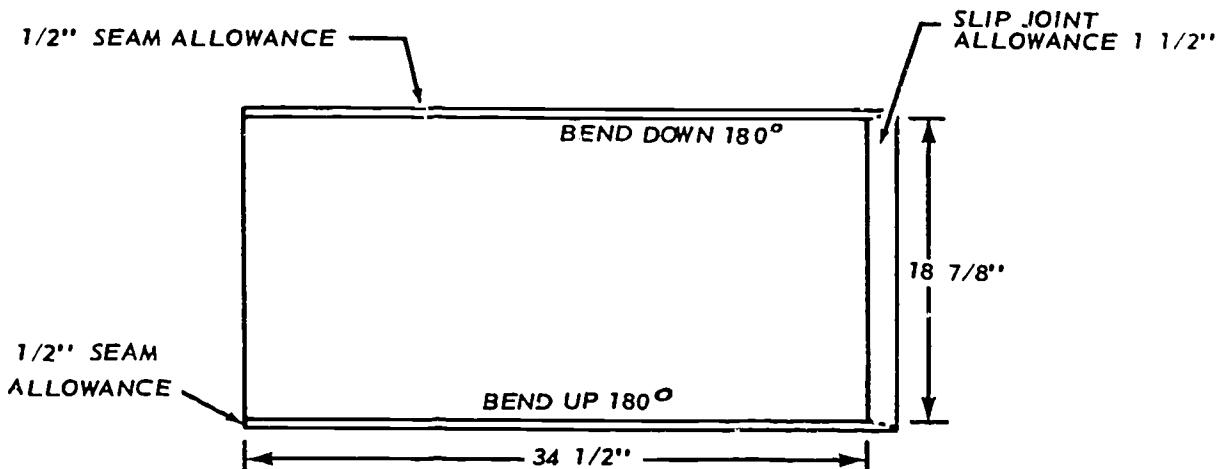

Figure 4-12. Pattern for 6-inch round duct joint.
*Round duct joint patterns.* All round duct joints in the branch lines are made in the same way except for the dimensions. In figures 4-6 and 4-9, most of the round duct has a 6-inch or 8-inch diameter, with the length made on a  $34\frac{1}{2}$  inch center. Since the sides of the pattern are parallel, the parallel-line method of layout is used. Without allowances, the pattern for a 6-inch round joint on a  $34\frac{1}{2}$ -inch center is a rectangle  $18\frac{1}{8}$ " x  $34\frac{1}{2}$ ", as shown in figure 4-12. The  $18\frac{1}{8}$ -inch side of the pattern is the circumference of the 6-inch joint, and each edge has  $\frac{1}{2}$ -inch allowance for the  $\frac{5}{16}$ -inch grooved seam. Notice that one edge is to be bent up and the other is to be bent down. The length of the pattern is  $34\frac{1}{2}$  inches plus  $1\frac{1}{2}$  inches for the crimped slip joint, making a total length of 36 inches. The patterns for the other round duct joints in the branch lines are like this one, except for their dimensions. The seam and connection allowances are the same for all round joints, except for the round joints that attach to the trunklines with dovetail seams.
The patterns for the round duct joints are easy to cut because they are rectangular and do not have notches. Figure 4-12 shows the pattern for the 6-inch round joint used extensively in the branch lines. Note that the size of the pattern, including allowances, is 19 1/8" x 36". Patterns this size can be cut from 3' x 8' or 3' x 10' sheets with very little leftover material. Since several joints of this size are to be made, you can save time by setting the back gage of the squaring shears for 19 1/8 inches and cutting all of the pieces from whole sheets of metal.
The pattern for the round duct joint in figure 4-12 does not require any notches because there are no cross bends to make when you assemble the joint.
*Round duct joints.* Forming and assembling a round duct joint is not difficult. Although round duct joints can be made with handtools, several machines can make the job much easier. Squaring shears cut the patterns, and the machines you can use for the forming processes include a Pittsburgh machine for making the grooved seams (fig. 2-6), a slip roll machine for forming the sheet into a cylindrical shape, and a crimping machine and beading machine for making the crimp and bead of a slip-joint connection. The pattern shown in figure 4-12 is assembled with a grooved seam, which was discussed in Chapter 3. A Pittsburgh machine can be used to turn back the 180° edges of the grooved seam, as shown in figure 2-6. Notice that one edge of the pattern must be turned up and the other edge must be turned down so that they will lock when the piece is rolled up and joined. When the Pittsburgh machine is used, the turned-back edges will fit tightly enough so that you can lock the seam with a mallet and hollow mandrel. All of the round duct joints in foldout 1 are the same, and only the dimensions of the patterns differ. If you need to refresh your memory about these machines, refer to Volume 2 of this course.